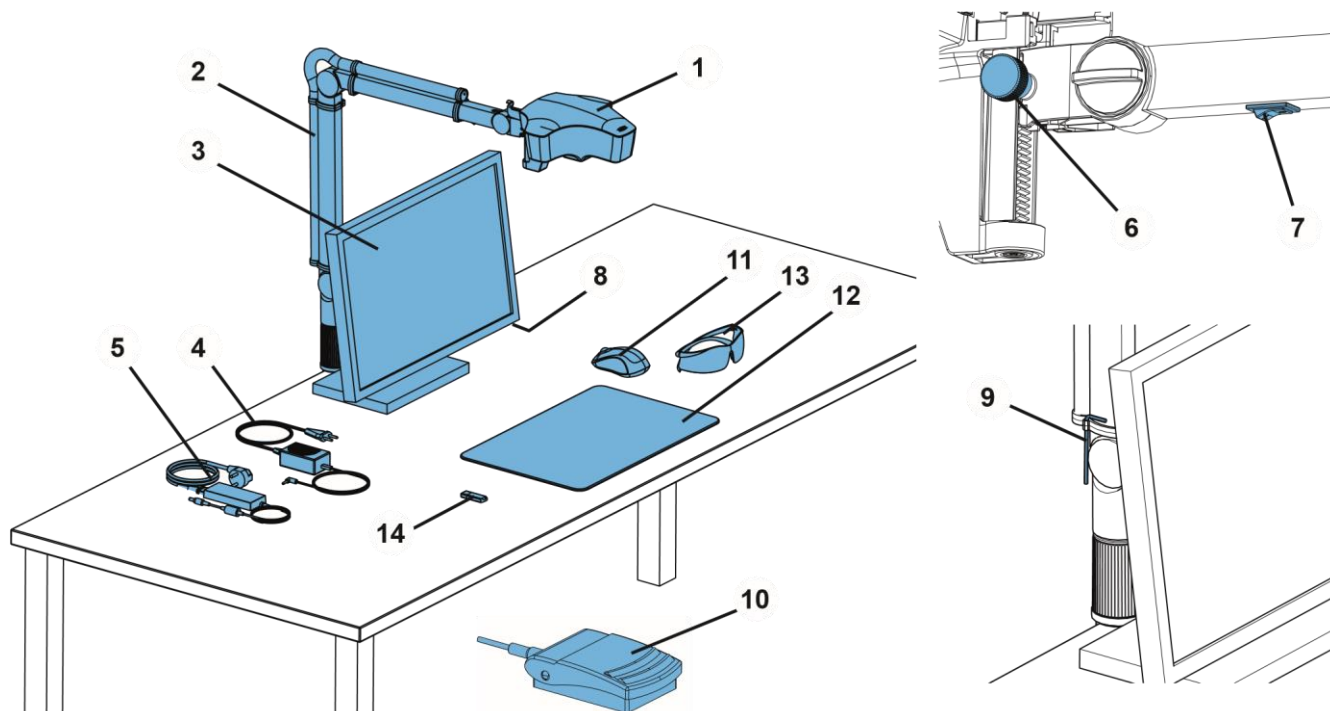

Fig. 1
- ⇒ Place the desk pad (12, Fig. 1) on the working table.
- ⇒ Place the mouse (11, Fig. 1) next to the desk pad.
- ⇒ Place the foot switch (10, Fig. 1) under the table and insert the cable for the foot switch into the foot switch.
- Fasten the screw at the head (32).
- Middle clamping screw (33)
- Clamp screw on base part (34)
- Clamping screw (35) with the included tool (9, Fig. 1)
- Clamping screw (36) with the included tool (9, Fig. 1)